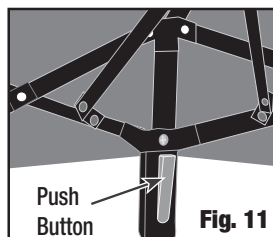

Fig. 11
- Press the push buttons found at upper corners of the frame (Fig. 11) and partially fold the frame. This will allow easier removal of the shelter top from the frame.